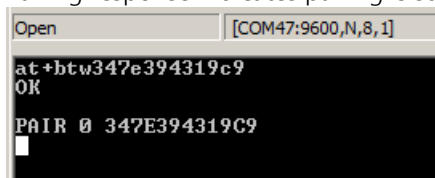

Figure 66: PAIRING is successful
5. Pairing response indicates pairing is successful (Figure 66).